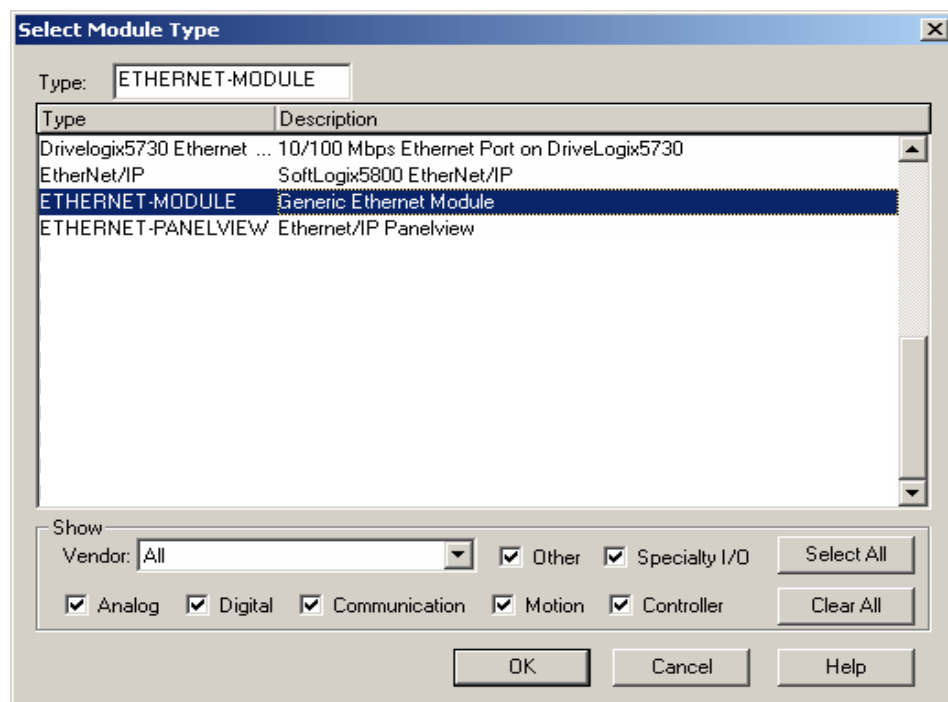

Figure 5. Select Module Type
- In this case, select the ‘ETHERNET-MODULE’ option for the Yaskawa series AC drives. See Figure 5 for an example. After the module type is selected, click ‘OK’.